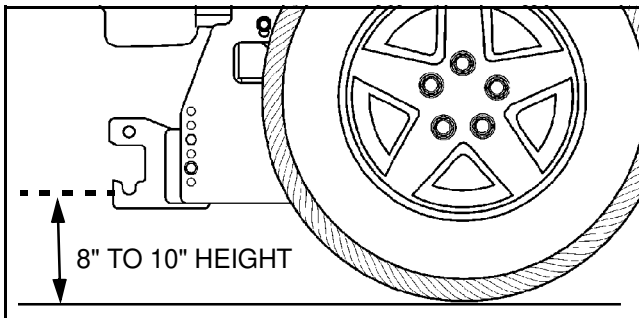

Figure 9
7. Position the Vehicle Center Member (#1) between the Side Mounting Brackets (#2 and #3) to allow for an 8" to 10" height between the VCM and the ground. (See Figure 9.)